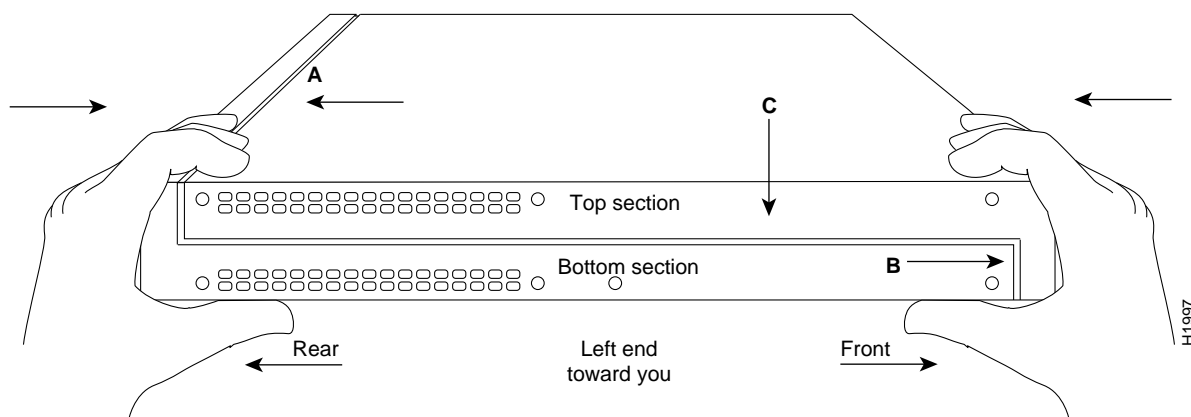

Figure 6 Replacing the Chassis Cover
Step 1 Position the two chassis sections as shown in Figure 6.
Step 2 Referring to Figure 6, press the two chassis sections together and ensure the following:
- The top section fits *into* the rear of the bottom section (See Part A in Figure 6).
- The bottom section fits *into* the front of the top section (See Part B in Figure 6).
- Each side of the top and bottom sections fits together (See Part C in Figure 6).